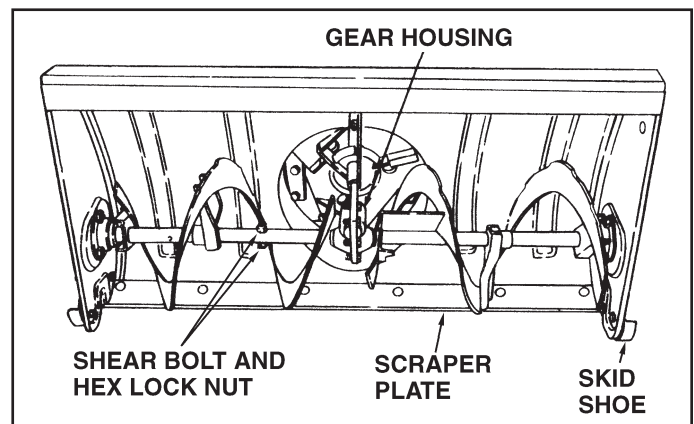

FIGURE 60
- If the augers will not turn, check to see if the shear bolts have sheared. See figure 60. Two replacement shear bolts and nylock nuts have been provided with the snow thrower. For future use order part number 42849 shear bolt and number 47810 nylock nut.